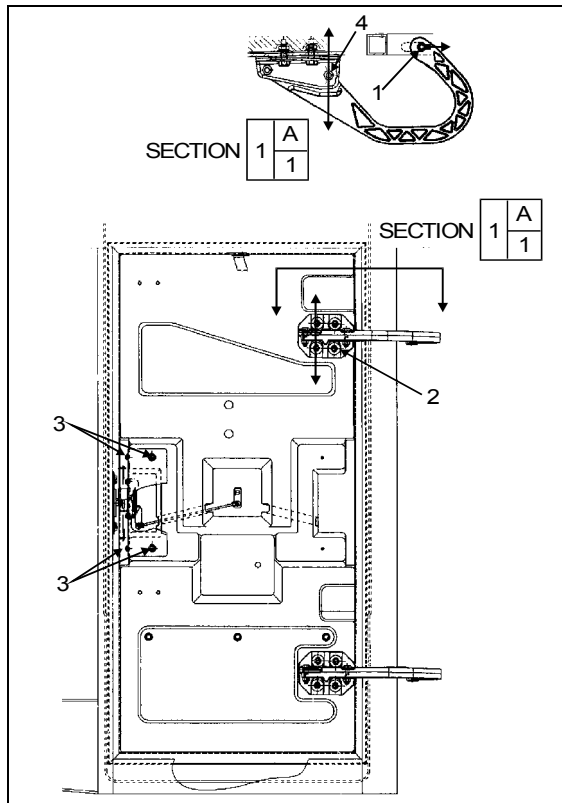

FIGURE 64: REAR SERVICE DOOR
1. Loosen nut (1, Fig. 64).
3. Tighten nut (1, Fig. 64).
4. Loosen nut (4, Fig. 64).
7. Loosen screws (2, Fig. 64). Screws allows the door to be shifted "UP or DOWN".